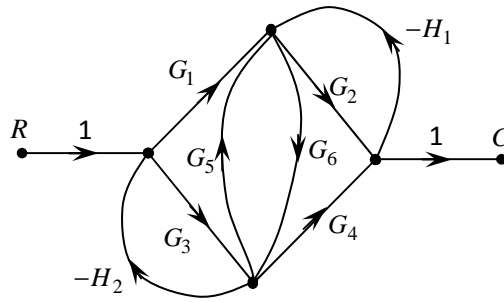

Fig. Q 11
- 11 Determine CLTF for the signal flow graph shown in Fig. Q 11 using Mason's gain formula.